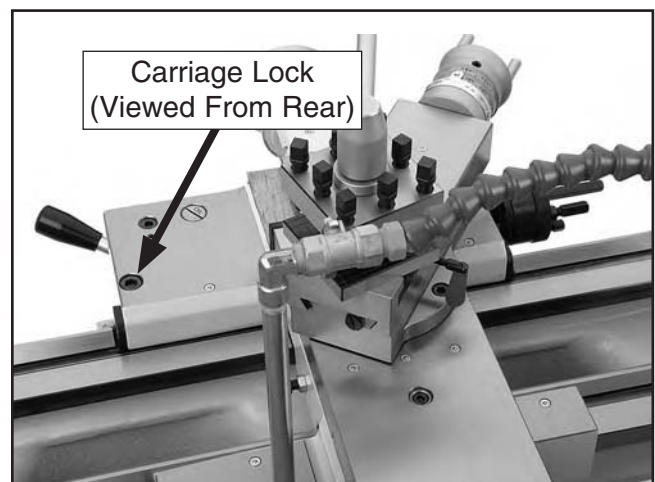

Figure 11. Location of carriage lock.
- a) Loosen the carriage lock shown in **Figure 11**.